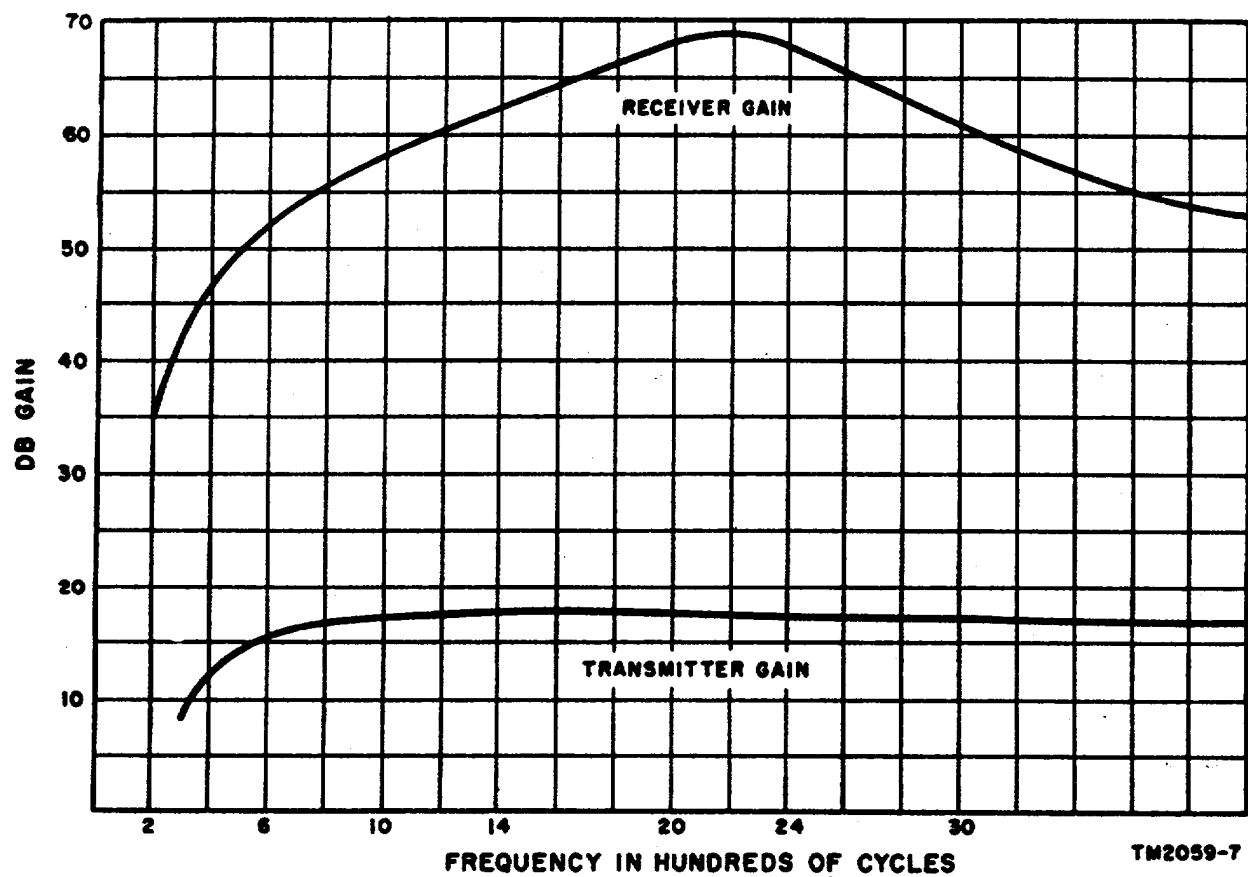

Figure 7. Amplifier gain characteristics.
b. Losses caused by the capacitive effects in the line increase at higher frequencies. To overcome these losses, the receiving amplifiers of the telephones are designed to provide greater amplification at higher voice frequencies (fig. 7). In this way, an equalizing action is obtained which results in a satisfactory overall frequency response characteristic.
c. The network consisting of choke L1 and its capacitor and resistor form the load impedance of tube V2. The parallel circuit formed by choke L1 and the capacitor has a resonant frequency of about 2,200 cycles, and at this point the first stage amplifier has its maximum gain. On either side of this frequency, the gain will decrease as shown in figure 7. This design provides compensation for the line losses over the essential voice frequency bandwidth.